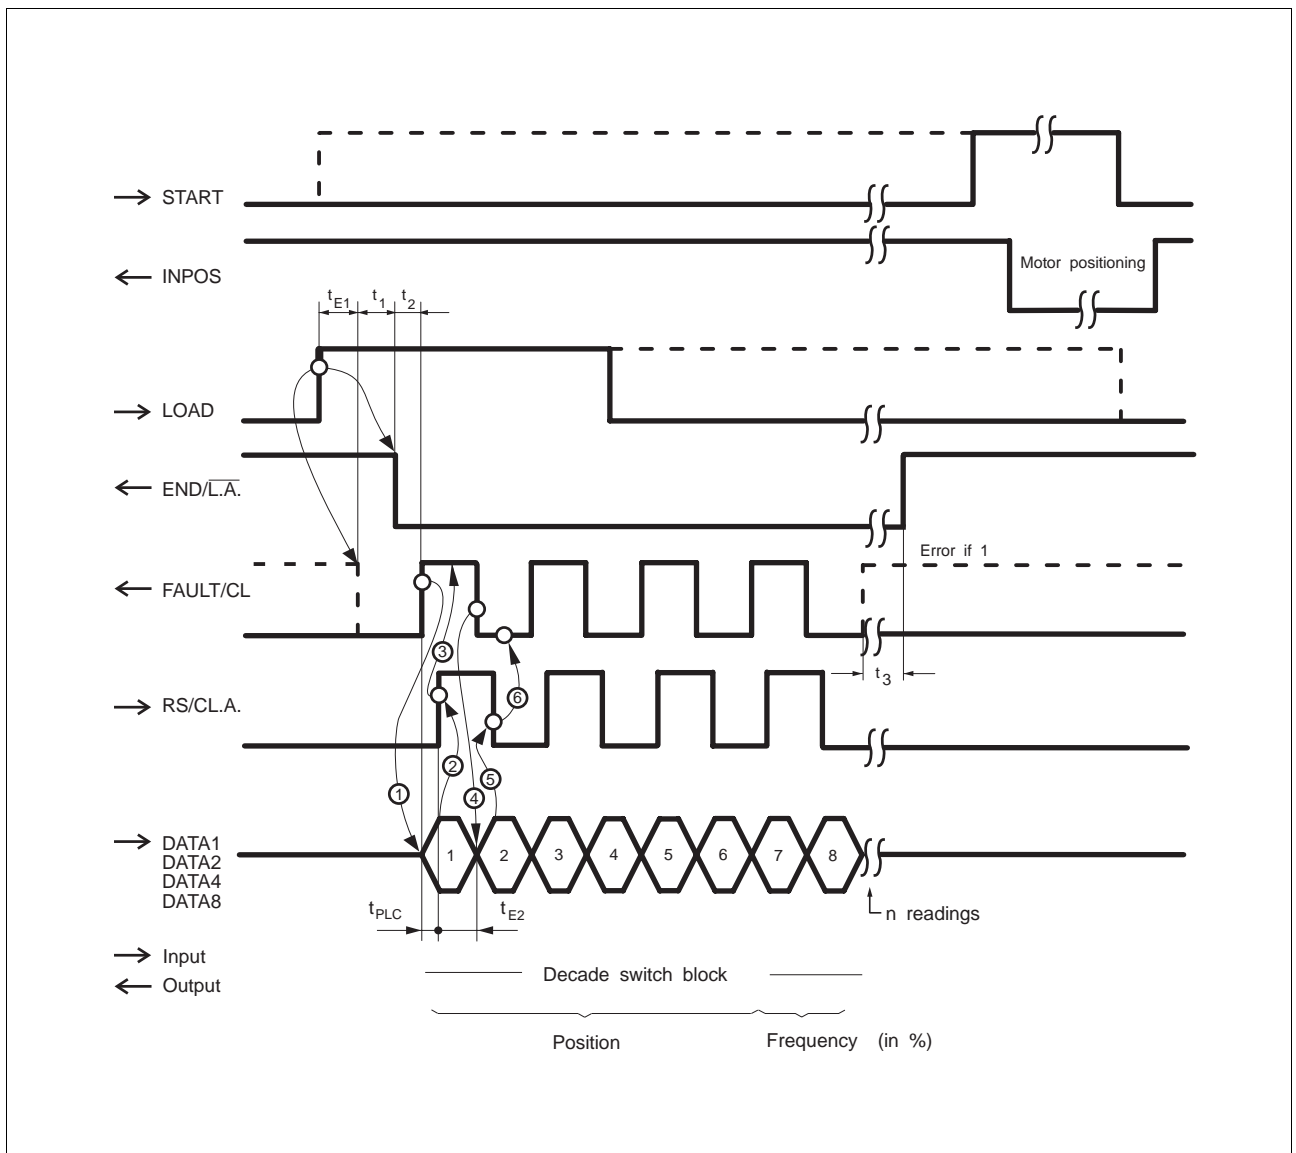

Fig. 3-25 Timing diagram for parallel data transfer
7. Read in decade values with the control signals RS/CL.A. and FAULT/CL in accordance with the timing diagram (fig. 3-25).